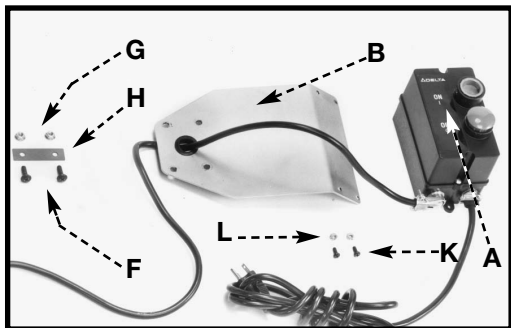
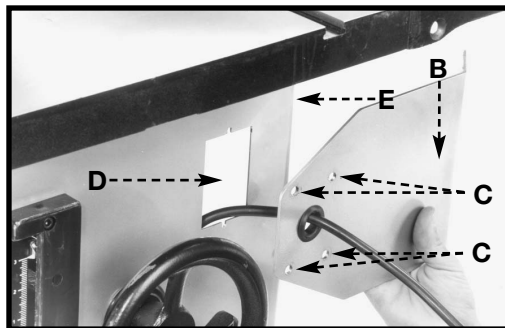
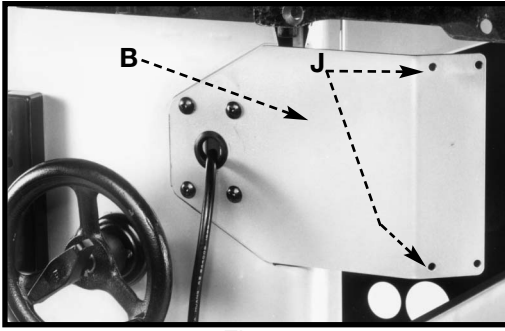

Fig. 4
Fig. 5
Fig. 7
1. The on/off switch (A) Fig. 4 and switch mounting bracket (B) are shipped inside the shaper cabinet. Open the side door of the shaper cabinet, remove the switch package, and remove all packaging material.
2. Position the switch mounting bracket (B) Fig. 5 with the holes (C) over the hole (D) in the shaper cabinet (E). Fasten the bracket (B) to the cabinet (E) using the four 1/4-20 x 7/8" truss head screws (F) Fig. 4, 1/4-20 flange nuts (G) and the two switch adapter plates (H).
4. Attach the on/off switch (A) Fig. 4 to the switch mounting bracket (B) Fig. 7, through the two holes (J). Use two #10-32 x 1/2" Phillips head screws (K) Fig. 4 and secure with #10-32 Keps nuts (L).